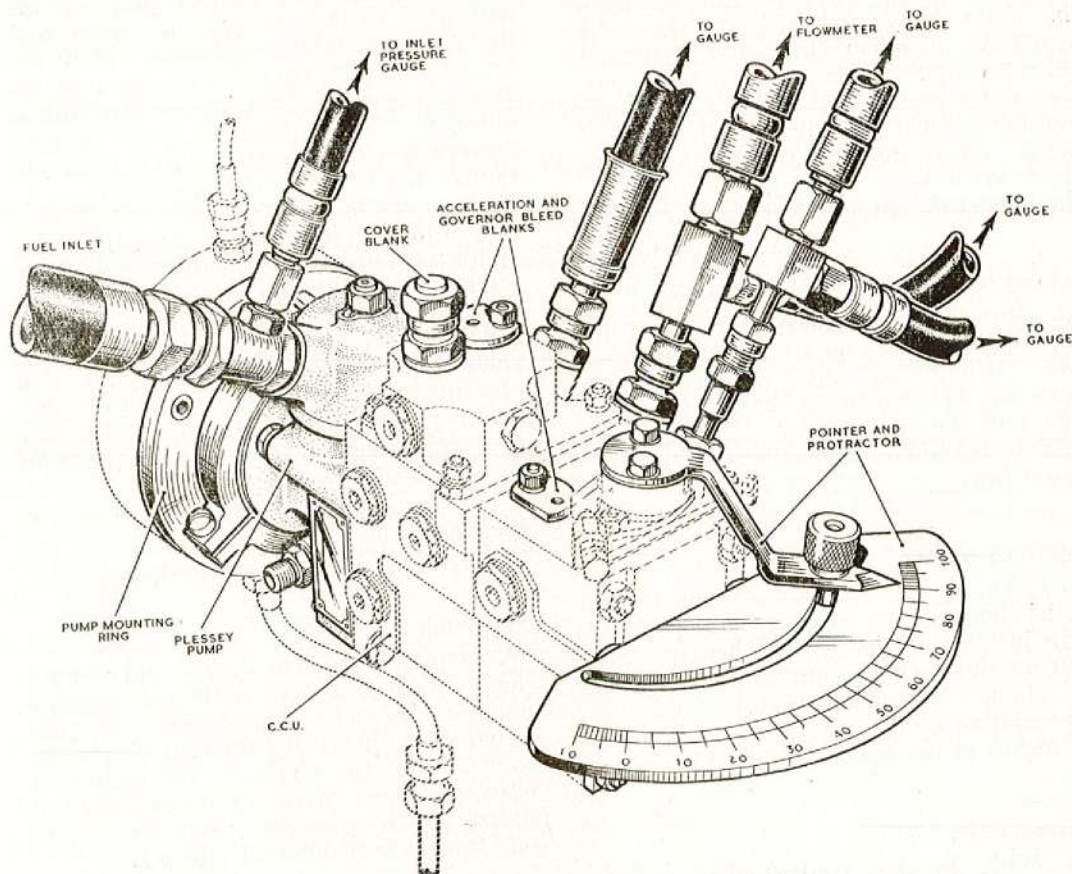

Fig. 13. Calibration test fittings (RSK.373)
83. Remove the inlet-outlet adapter plate and mount the unit on the calibration rig. 212 (fig. 13). With the unit running at 2500 rev/min and the disc control plate set at minimum angle, check that the burner flow is less than 4 g/h. If beyond the stated limit, replace the governor plunger and orifice assembly and repeat the test.